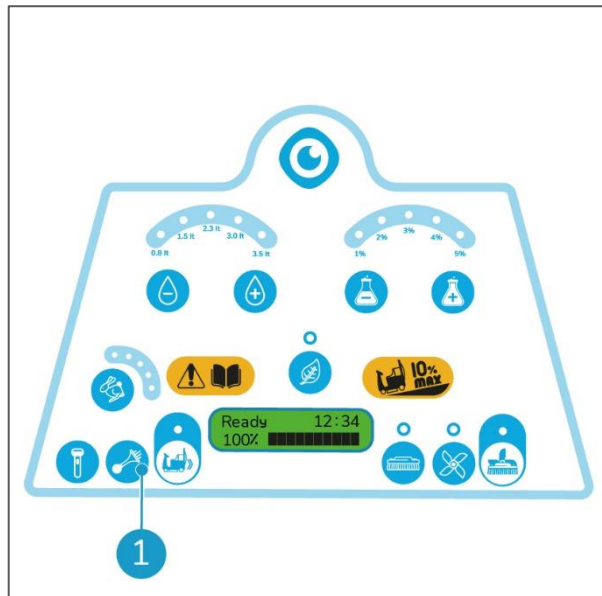

Figure 25
1. Push the horn button (Figure 25, pos 1) to sound the horn.